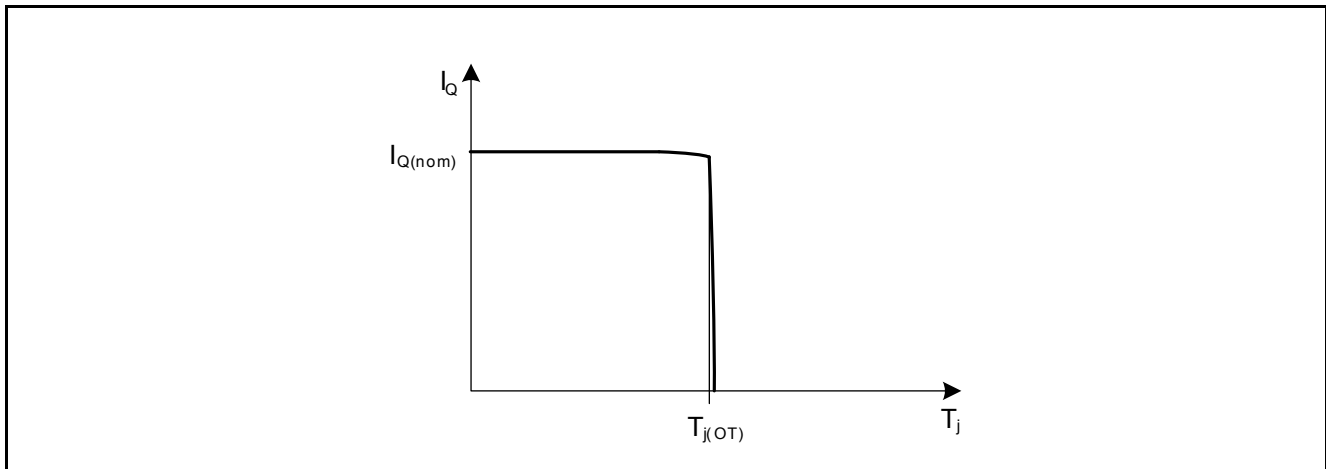

Figure 5-2 Over Temperature Protection
- Over temperature protection realized by over temperature switch off (see Figure 5-2)